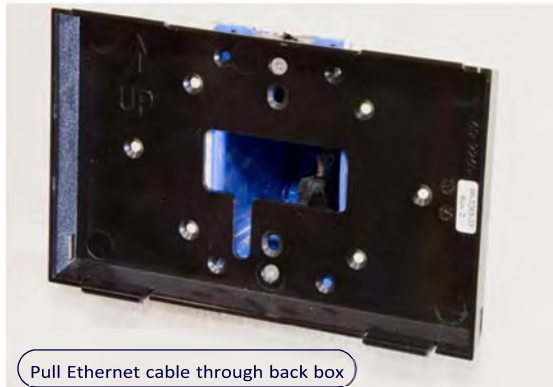

FIG. 6 ACCESSING THE ETHERNET CABLE THROUGH THE BACK BOX.
7. Pull enough slack on the Ethernet cable through the back box to allow the cable to reach the touch panel's RJ45 connector (FIG. 6).